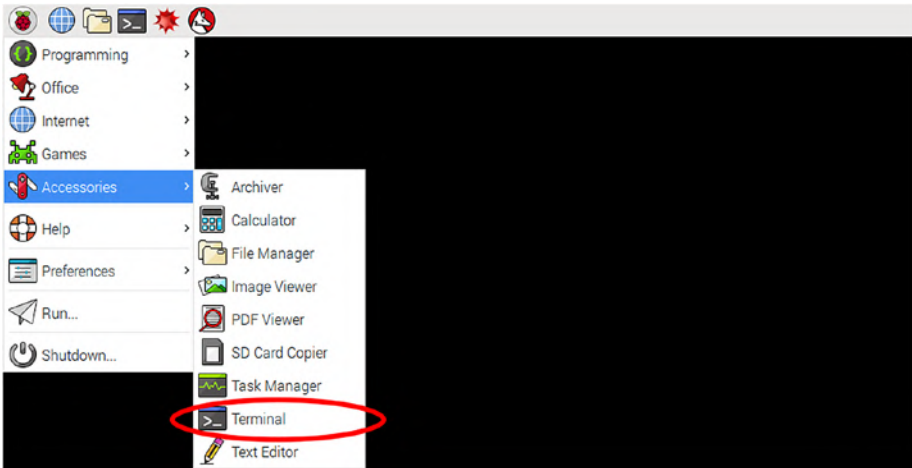
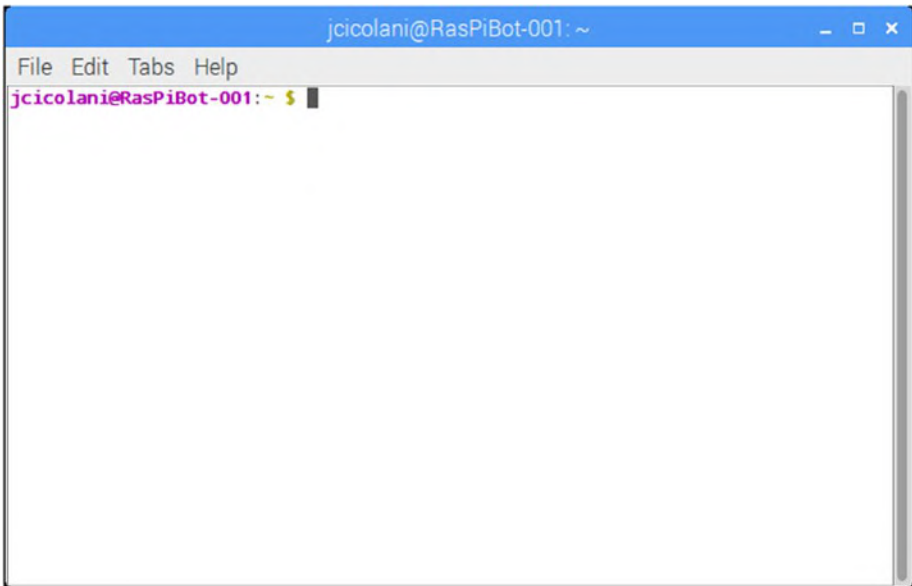

Figure 2-4. Terminal selection from the applications list. The terminal icon is also on the quick access bar.
Figure 2-5. Terminal window
2. Select **Accessories** ► **Terminal**, as shown in Figure 2-4. When opened, the terminal window is displayed (see Figure 2-5).